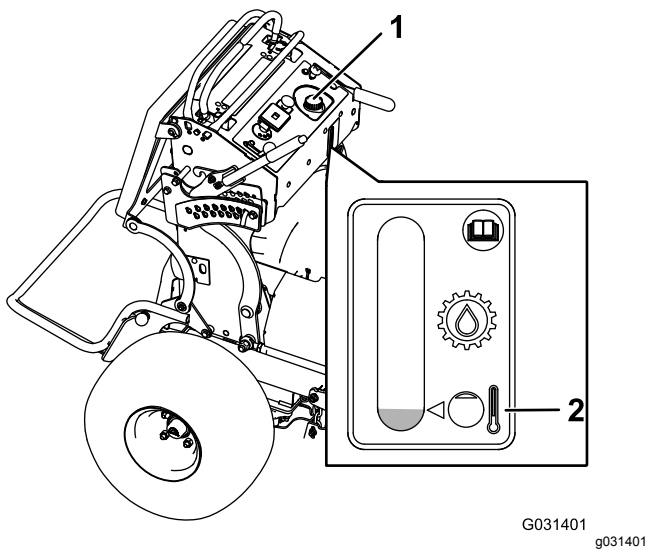

Figure 70
4. Remove the cap from the filler neck (Figure 70).